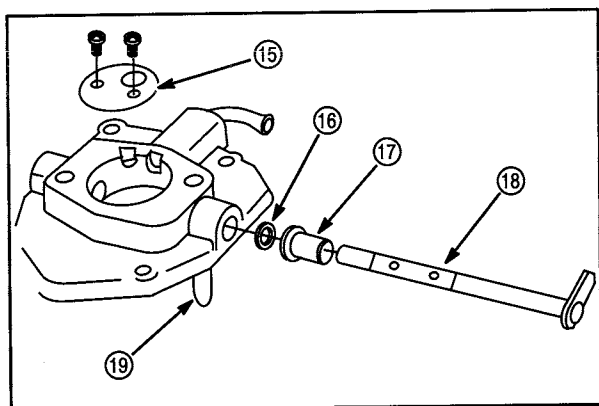

Fig. 83
Support upper body on a vise or wood block so that emulsion tube (19) will not be damaged, **Fig. 83**.
11. Mark choke plate (15) before removal to ensure reinstallation in the original position.
12. Remove choke shaft (18) and spacer (17).
13. Remove seal (16).